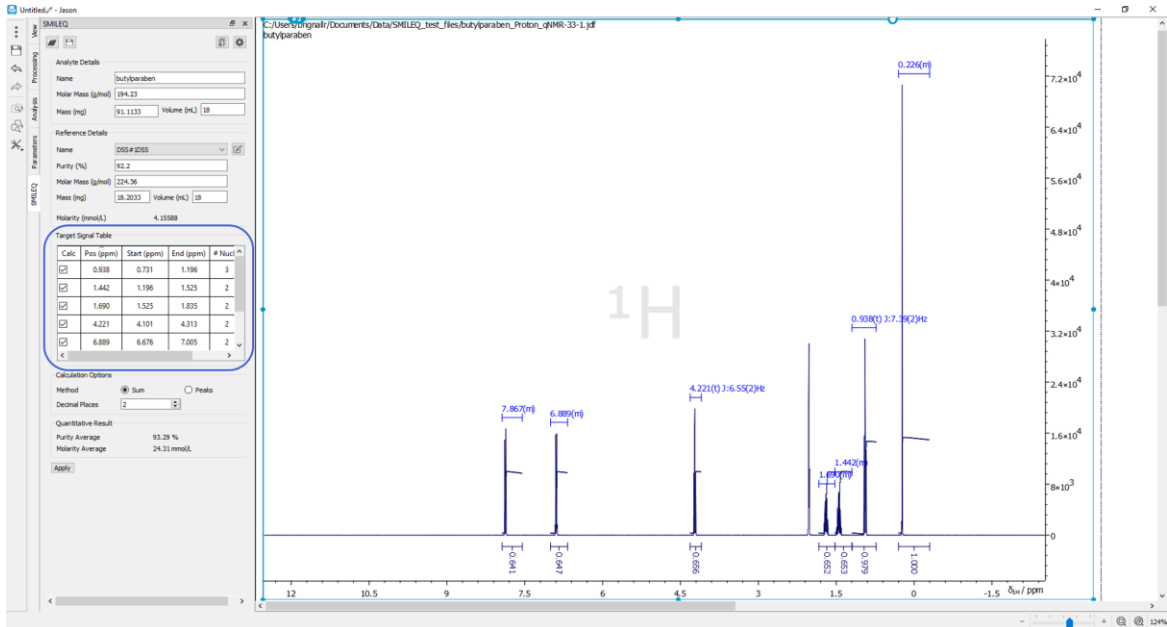

Figure 22: SMILEQ widget after confirming the target signal table
- Confirm the **"Target Signal Table"** details. If necessary, manually (de)select the signal for the analyte or enter the nuclides information as shown in Figure 22.